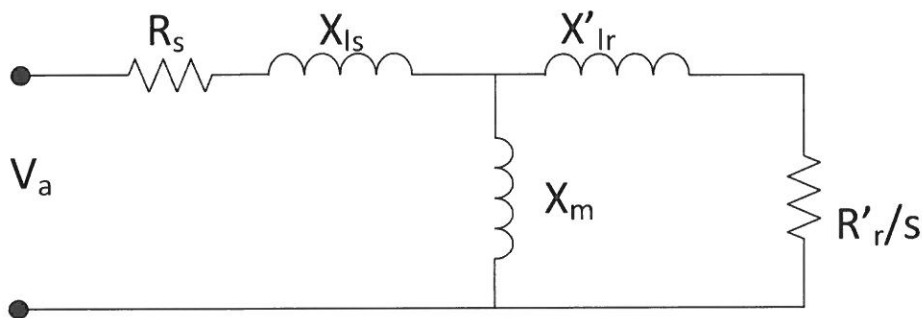

Figure Q.2(a) Per phase equivalent circuit of induction motor
Q.2 (a) A 4-pole induction motor is supplied from balanced 3-phase source of 415V/50Hz. The equivalent circuit parameters given as in the Figure Q.2(a) as: